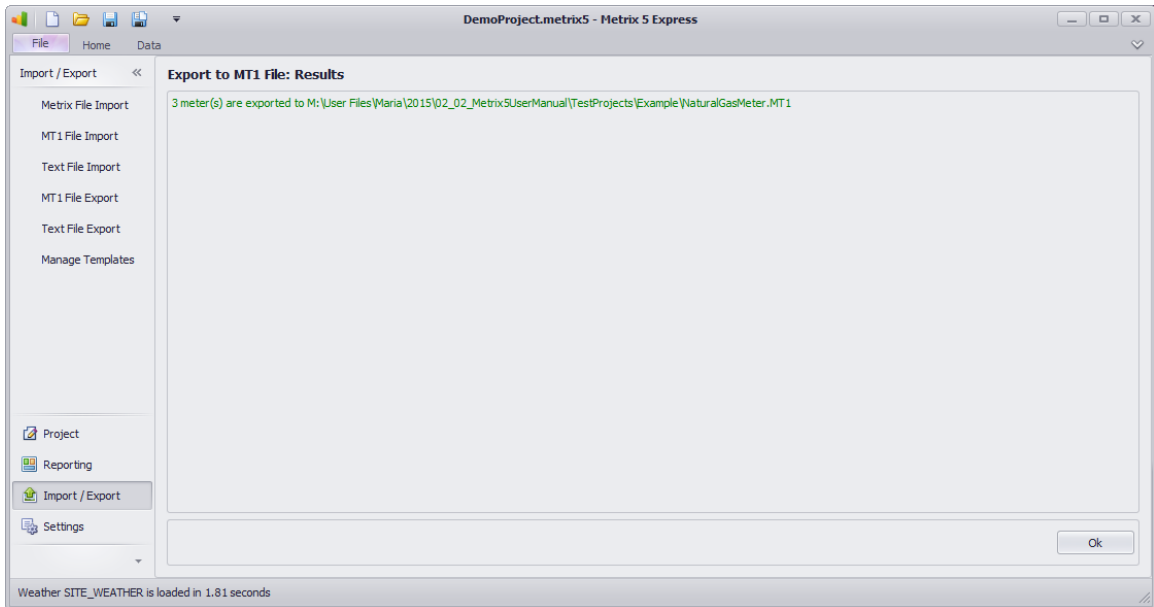

Figure 5.8: Screen for a successfully exported file.
4. **Check results:** If the information has been successfully exported and the MT1 file created, a window like the one shown in Figure 5.8 will appear. If an error message appears. Click OK to go back to the main Import/Export menu.